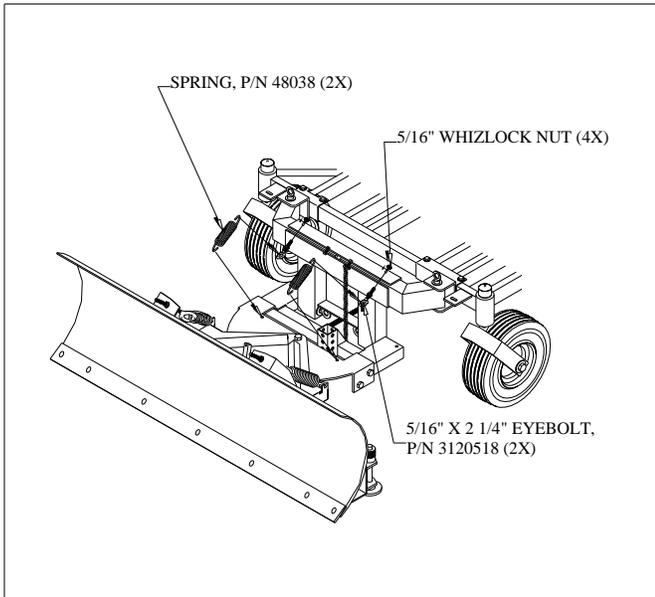

Fig. 9
9. Spin one 5/16" whizlock nut onto 5/16" x 2 1/4" eyebolt (9) about halfway, with flange on nut away from eye on eyebolt. Slip eyebolt with whizlock through one of the remaining holes in half brackets as shown (eye pointed down) and secure with second 5/16" whizlock. Repeat for hole in opposite side. Note: These spring assemblies are the lift spring assemblies, the tighter you install the springs, the harder it is to push down to make contact with the ground. Adjust the tension on the lift springs to your preference. **FIG. 9**